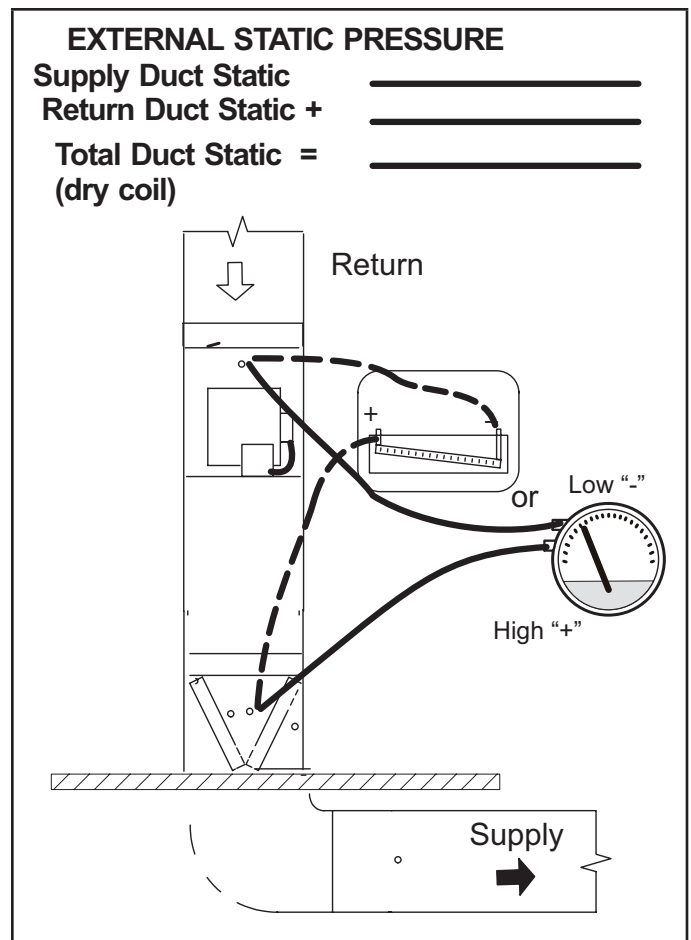

FIGURE 24
- 1 - Tap locations shown in FIGURE 24 .